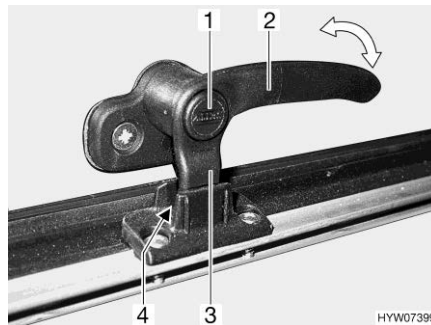
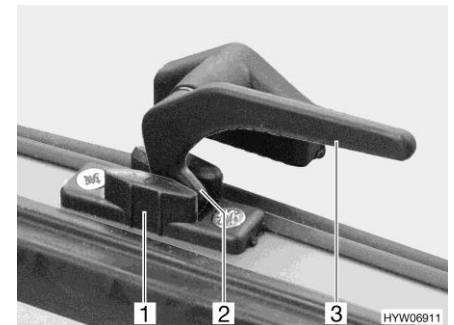

Fig. 100 Catch lever with safety knob in "continuous ventilation" position
Fig. 101 Catch lever in "continuous ventilation" position
- "Continuous ventilation" (Fig. 100 and Fig. 101)
- Press and hold the safety knob (Fig. 100,1), if present.
- Turn the catch lever (Fig. 100,2 or Fig. 101,3) a quarter turn towards the centre of the window.
- Return the catch lever to its initial position. Move the locking catch (Fig. 100,3 or Fig. 101,2) on the catch lever into the recess of the window catch (Fig. 100,4 or Fig. 101,1).